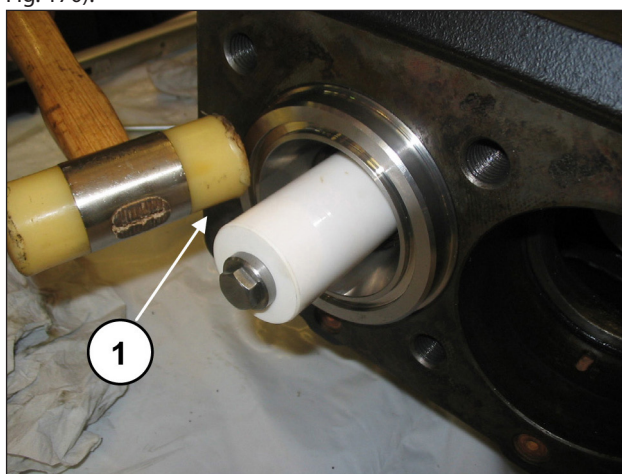
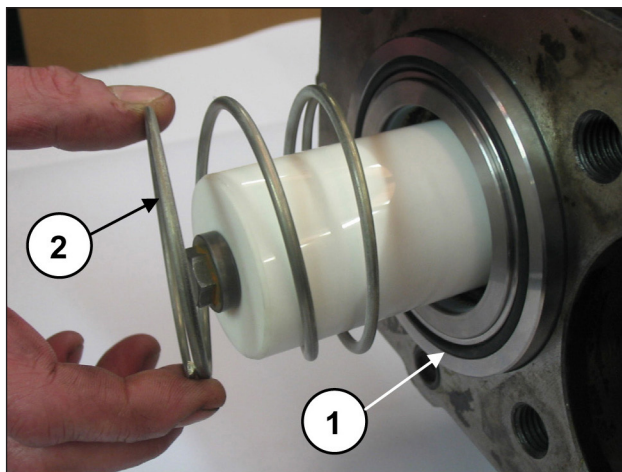

Fig. 169
Fig. 170
Ensure that the liner-support block is positioned correctly down to the bottom of the housing (pos. ①, Fig. 169); now mount the front O-ring of the liner and the spring (pos. ①②, Fig. 170).